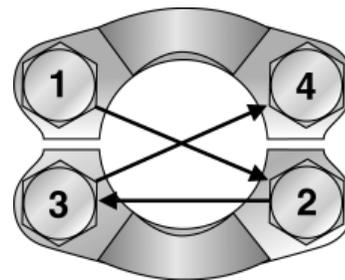

Fig. T9 – Flange Bolt Tightening Sequence
6. Torque bolts in diagonal sequence (see Fig. T9) in small increments to the appropriate torque level listed in Table T6 or Table T7 on page T8.